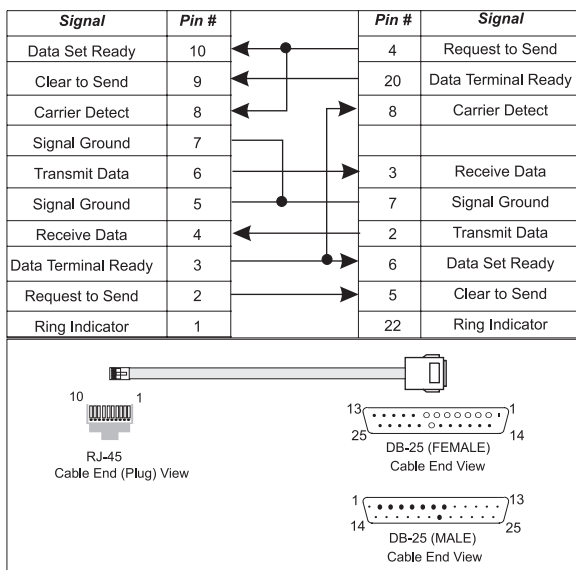
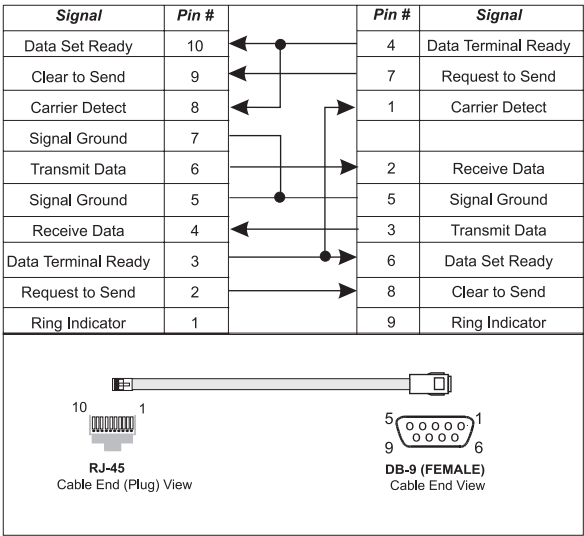
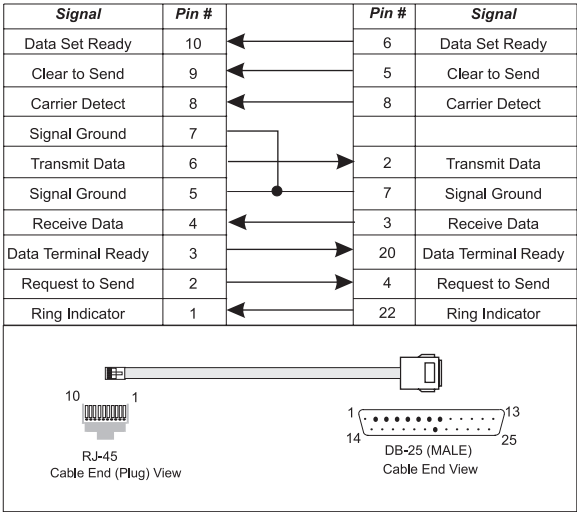

Figure 3.3: Cable Pinouts for RJ-45 to Terminal/Printer DB-25
Figure 3.4: Cable Pinouts for RJ-45 to PC DB-9
Figure 3.5: Cable Pinouts for RJ-45 to Modem DB-25
- All port module jacks face toward the front with the key on the bottom. Refer to Figure 3.3, Figure 3.4 and/or Figure 3.5 for modular jack cable pinouts.